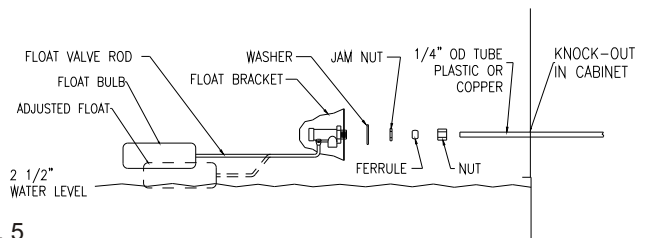

Fig. 5
- Install float valve in the bracket provided (see Figure 5).